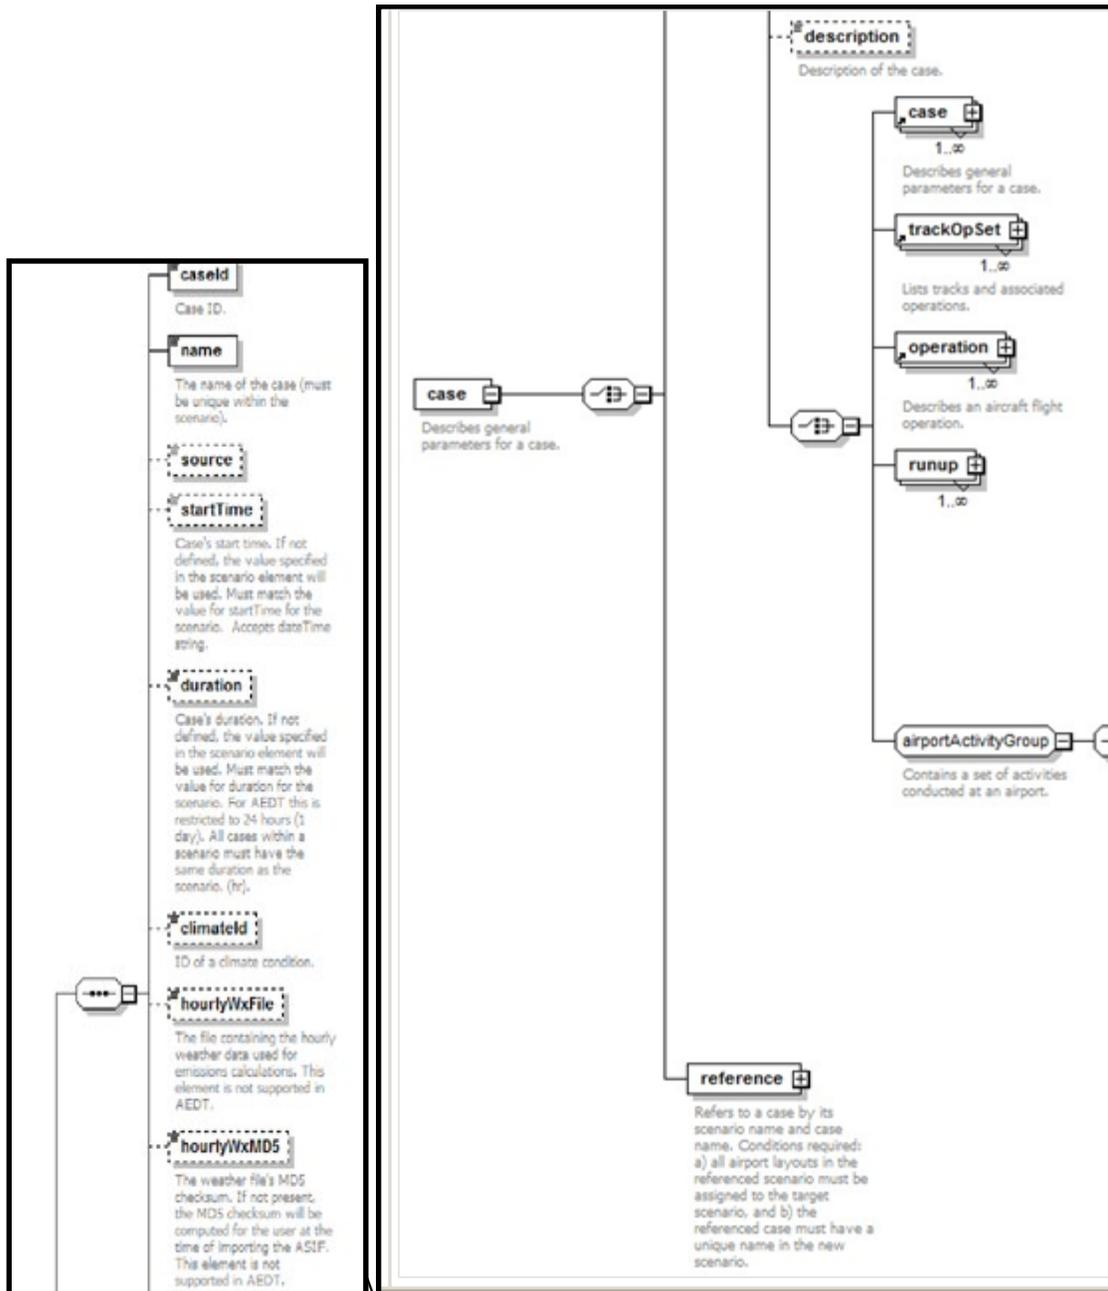

Figure 54. XML element case
7. AsifXml/study/scenario/case (Figure 54):